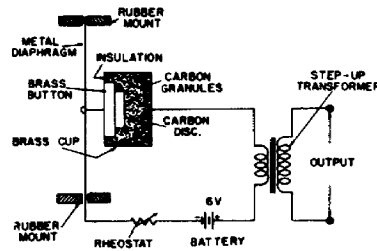

Figure 3-2. Connection and construction of a single-button carbon microphone
b. After leaving the secondary of the transformer, the minute changes current through the transformer primary are amplified and reproduced in a conventional manner. Figure 3-2 shows the circuit diaphragm and construction of a carbon microphone.